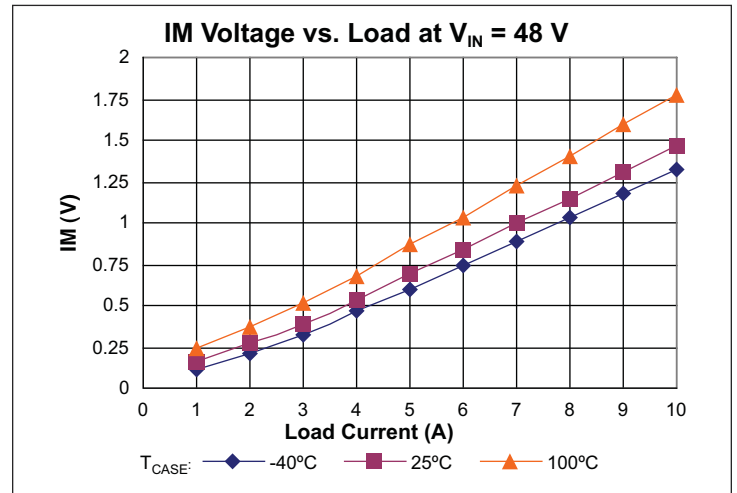

Figure 8 – IM voltage vs. load
**Current Monitor (IM)** pin provides a voltage proportional to the output current of the VTM. The nominal voltage will vary between 0.12 V and 1.4 V over the output current range of the VTM (See Figures 8–10). The accuracy of the IM pin will be within 25% under all line and temperature conditions between 50% and 100% load.